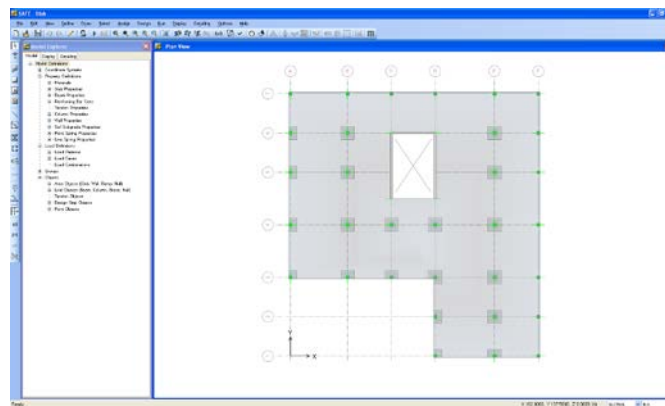

Figure 34 Model after all objects have been drawn
- B. Click the **OK** button to accept the changes, and the model now appears as shown in Figure 34.